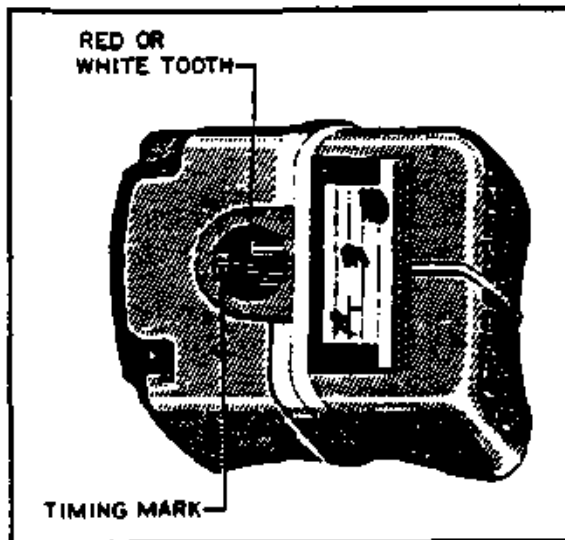

Figure 8-12. Magneto Timing Marks
- c. Rotate coupling from neutral in a left hand direction 10 degrees. Appearing through timing hole, when the white or red tooth aligns with the white line of the distributor block the magneto is set at "E" gap. (Refer to Figure 8-12.) Alignment may not vary over  $\pm 4$  degrees.
c. Rotate the drive gear on the magneto until the chamfered tooth on the distributor gear inside the magneto aligns with the white pointer as seen through the inspection hole in the magneto housing. Refer to Figure 8-12.